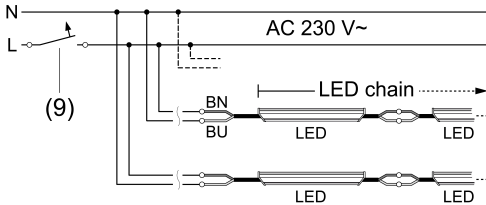

Figure 7: Circuit diagram
- Connect the LED lighting inserts according to the circuit diagram (Figure 7).